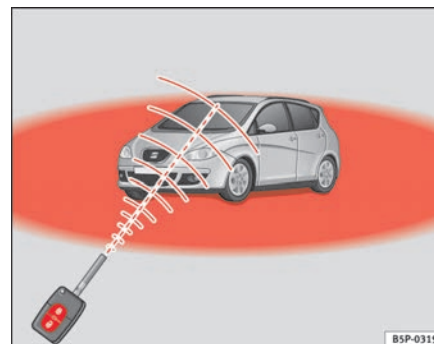

Fig. 65 Range of the remote control
- The remote control functions only when you are in range ⇒ page 100, fig. 65 (red area).